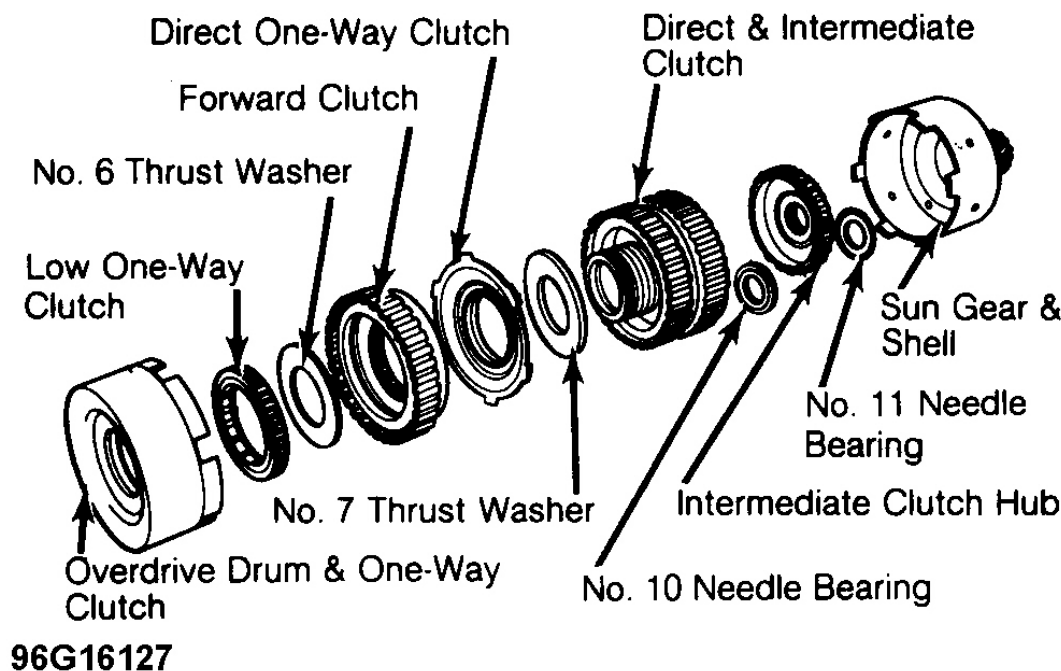

Fig. 20: Exploded View of Shell Assembly
1. Set assembly on overdrive drum and remove sun gear and shell assembly. Remove No. 11 needle bearing, intermediate clutch hub and No. 10 needle bearing. See **Fig. 20**.